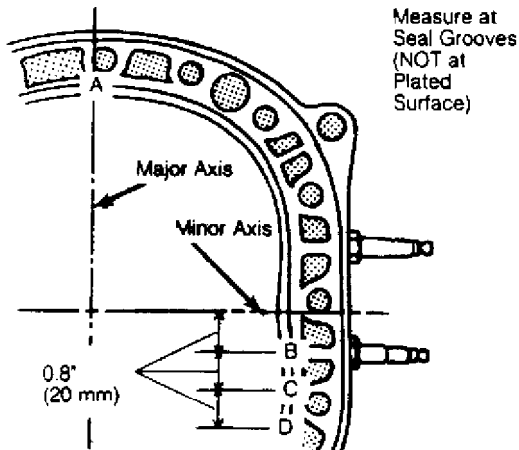

Fig. 11: Rotor Housing Thickness Check Points
5) Check rotor housing thickness at points A, B, C, and D in Fig. 11. If micrometer readings vary between point A and minimum value for B, C, and D by more than .0024" (.06 mm), replace rotor housing.
1) Inspect rotor for wear or damage, and check internal gear for chips, cracks or scoring. Measure rotor width at 3 points, and subtract maximum width from width of rotor housing at point "A" in Fig. 11.